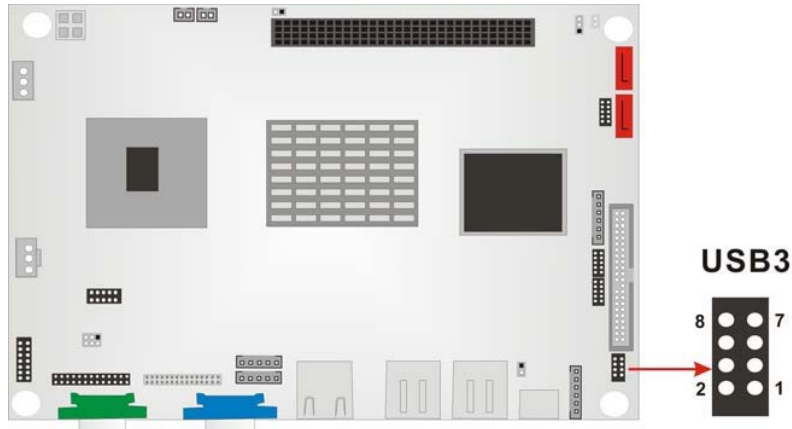

Figure 3-25: USB Connector Location
- CN Location:** See Figure 3-25